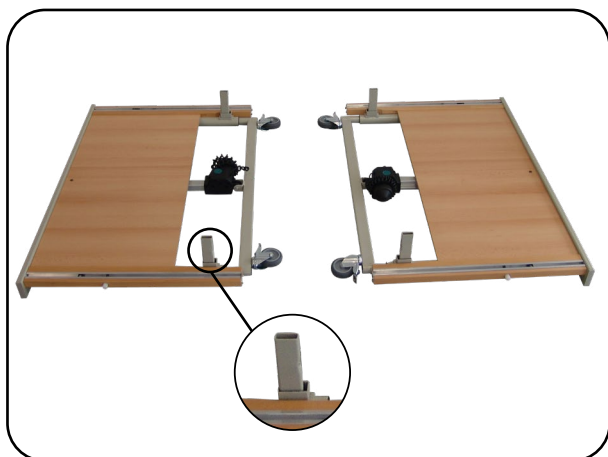

Fig. 6.1.01 – Stand parts
1. Position the castors parallel to the stand part and lock the arresters (see the section **Castors** in the chapter on operation). Lie the stand parts on the floor with the tube elements pointing upwards (Fig. 6.1.01).